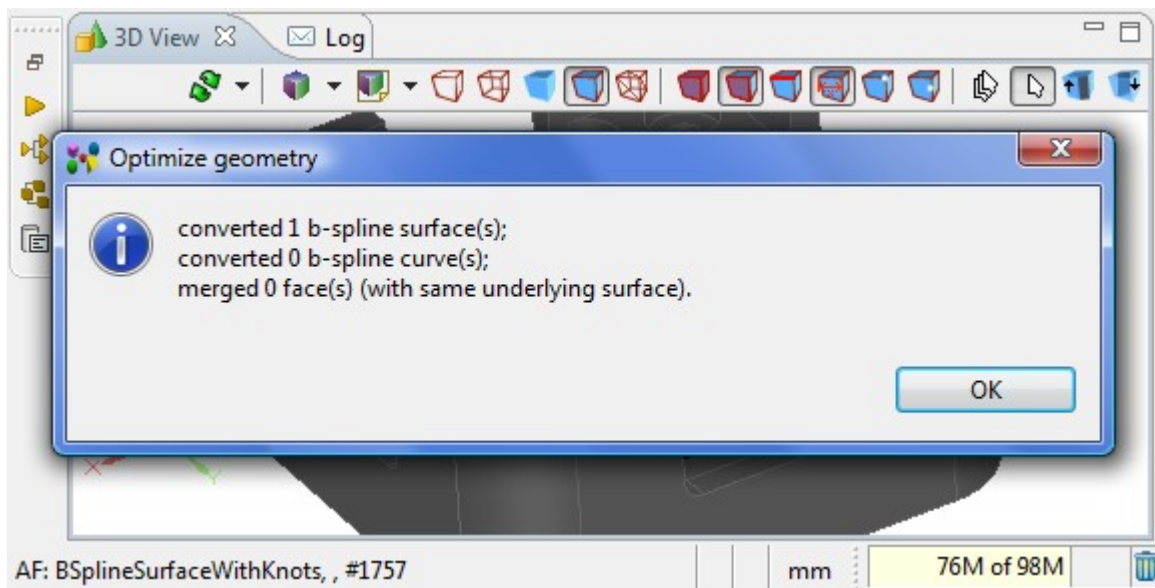

Figure 10. Optimize geometry message window with information about modified surfaces
- The message window **Optimize geometry** appears on the screen, informing, what number of faces were modified by merging (see Figure 10). Click **OK** button to close the window.